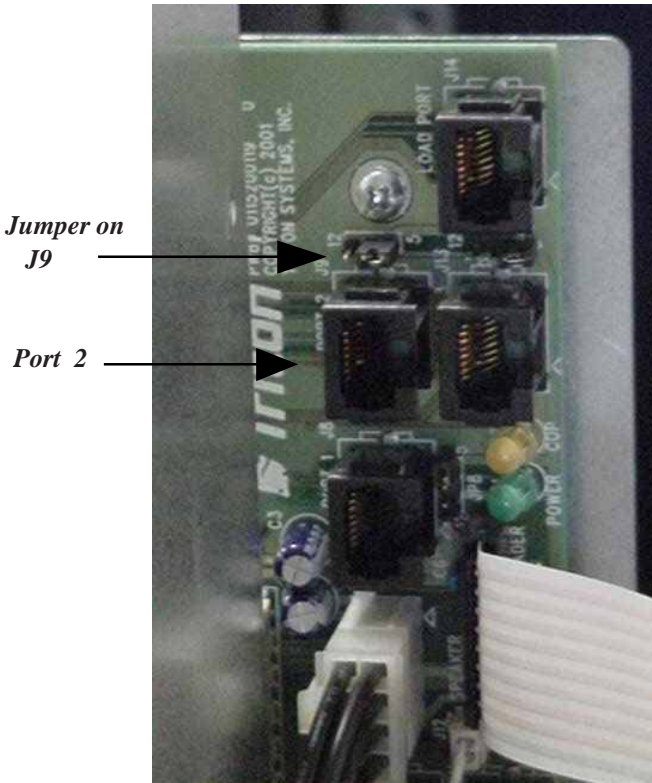

Figure 2-7. Docking Board assembly.
8. Connect the RJ-45 connector end of the RS-232 I/F Host Cable to **Port 2** of the Docking Board assembly (Figure 2-7).
9. Locate **J9** just above Port 2. The jumper should be on **Pins 2 and 3** to provide the necessary +5 VDC to the External Ethernet assembly device (Figures 2-7 and 2-8).